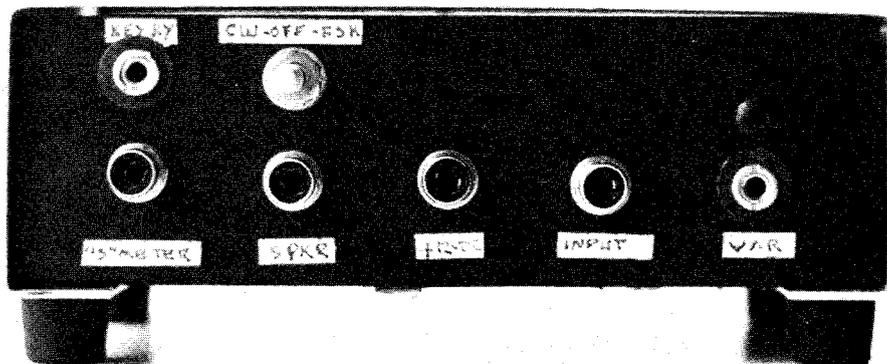

Figure 14-8.
7. Rear panel of the R40/ *Crystalmatic* cabinet should look like that of *Figure 14-8*, plus T2 choke shorting switch above VAR jack.
Figure 14-8 was taken before the T2 choke shorting switch was installed above the VAR mini phone jack. Items, top left to right, are: